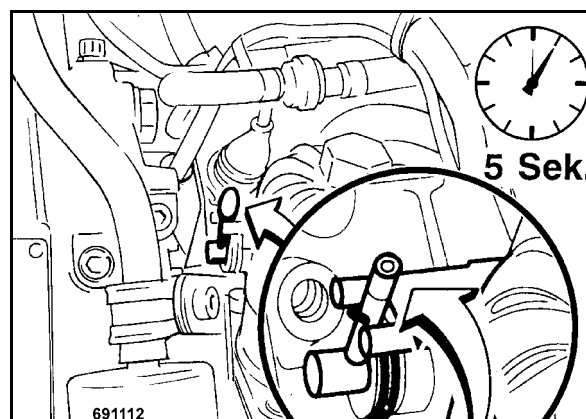

Fig. 17
- Press the hand lever (Fig. 17) for approx. five seconds against the spring.